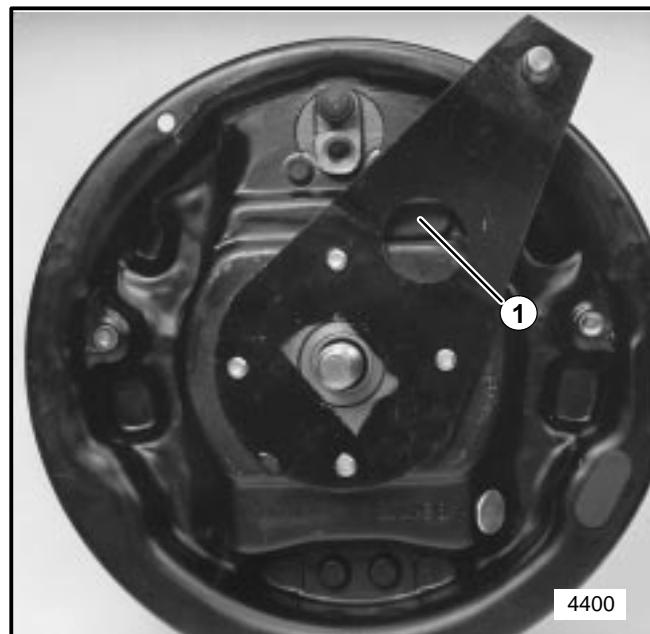

FIGURE 9
- 2. Remove adjusting hole cover from brake dust shield. See Figure 9.